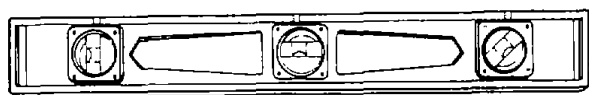

Figure 3-4. Mechanic's Level
(4) *Mechanic's level* The mechanic's level, shown in figure 3-4, has 3 vials which are mounted horizontally, vertically, and diagonally.